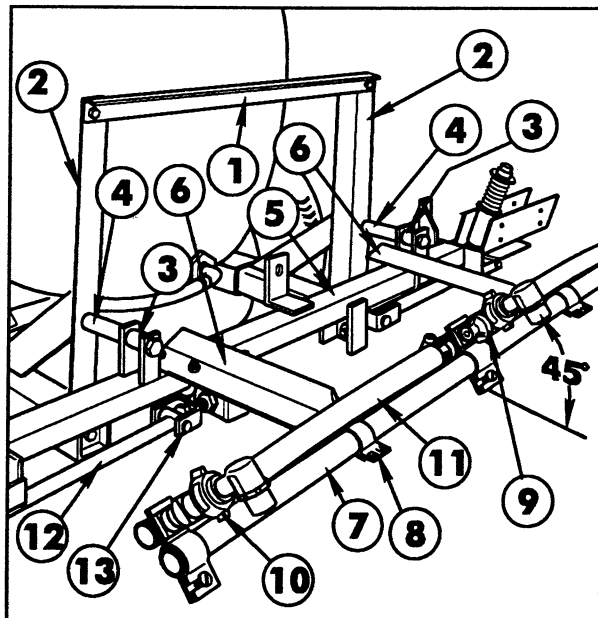
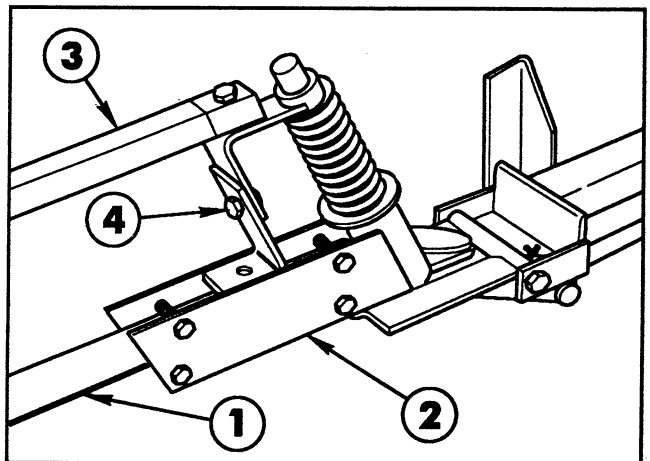

FIG. 11
FIG. 12
3. Position the Spacer Tubes between the Boom Mount uprights and the lugs on the Main Frame Tube. Use two 1/2" x 4" hex hd cap screws and lock nuts to secure the Main Frame Tube to the uprights. See FIG. 11.
5. Position the two (2) Center Boom angles on the Main Frame and secure them to the Main Frame tube with two (2) square U- bolts, four (4) flat washers and hex nuts. See FIG 11.
6. Center and attach the Center Boom Pipe to the two Center Boom Angles with two (2) clamps, 3/8" x 1" cap screws, flat washers and lock nuts.
7. Loosely attach the triple barb Nozzle Assembly in the approximate center of the Center Boom Pipe. For the most uniform spray coverage, position all Nozzle Assemblies at a 45° angle as shown in FIG 11. Tighten clamp screw to secure the Nozzle Body to the Boom Pipe.
9. Attach the two Strut Assemblies to the two Adjustable clevis' found on each side of the Main Frame tube with two (2) 1/2" x 2" clevis pins and two (2) 1/8" x 1" cotter pins.
10. Insert the plugged end of an Extension Boom Pipe into the Pivot Assembly and secure with four (4) 1/4" x 1-1/4" cap screws and lock nuts. See FIG 12. Repeat on the opposite side to assemble the other Extension Boom.
11. Attach the Boom Support Assembly to the Pivot Assembly, using a 5/16" x 1-1/2" cap screw and lock nut. See FIG 12.
14. Adjust the Booms to a level position by adjusting the jam nuts on the adjustable clevis assemblies (See FIG. 11) to the desired position, then tighten the end nuts against the Main Frame Plate.